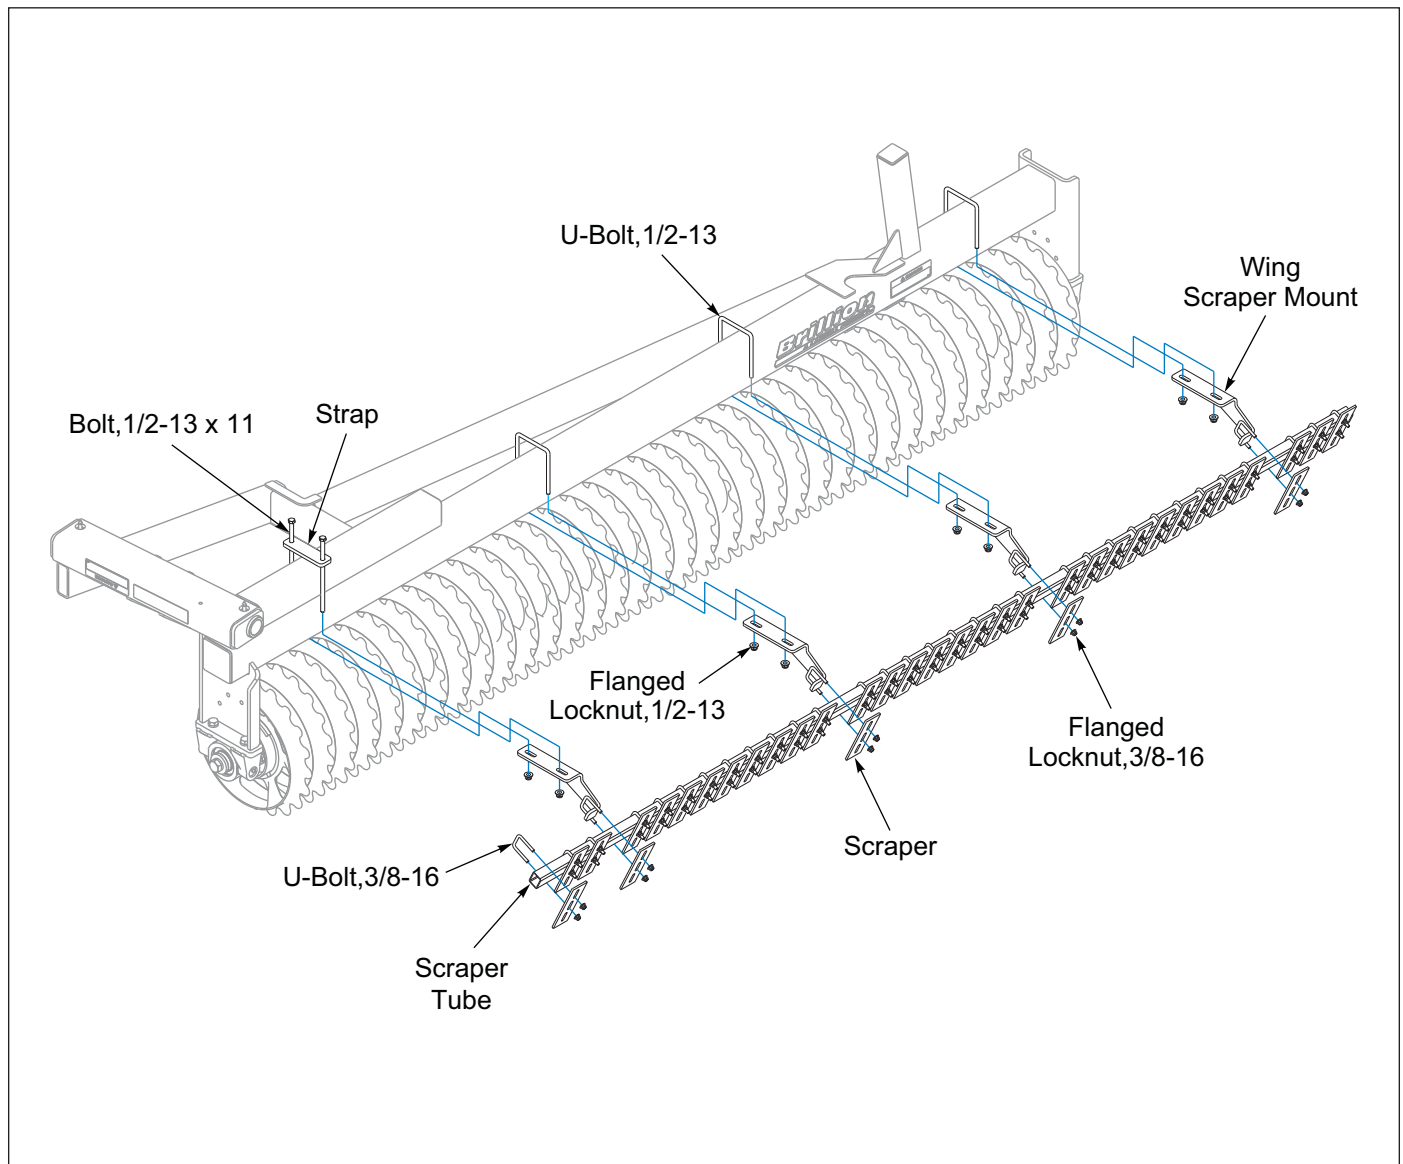

Figure 2-22: Wing Notch Wheel Scraper - Optional
1. Place Wing Rollers on level ground. On the frame double stacked rear tubes by the Wing Hinge, assemble a Wing Scraper Mount to the bottom of the frame rear tube by placing a Strap on the top of the frame double stacked short tube and attaching it with 1/2-13 x 11 Bolts, and Flanged Locknuts. Assemble the other Wing Scraper Mounts to the bottom of the wing frame rear tube with 1/2-13 U-Bolts and Flanged Locknuts. **See Figure 2-22.** Do not tighten.